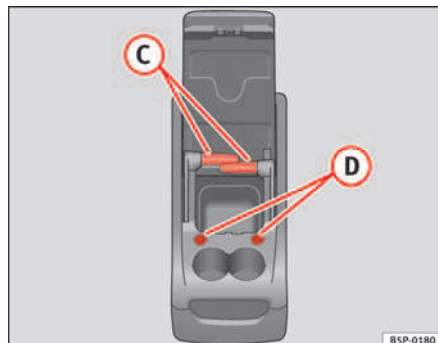

Fig. 112 Mobile stowage compartment Uses
To use the table (C) ⇒ fig. 112, it must be removed from its compartment on the side of the mobile stowage compartment and fitted into compartment (D) ⇒ fig. 112 on the front section of the mobile stowage compartment.